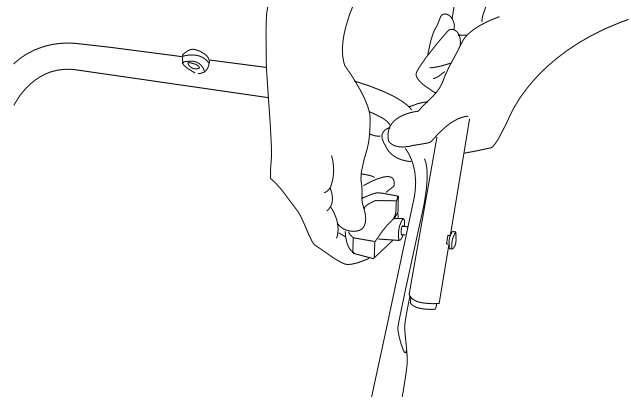

Figure 4
3. Secure the connection of middle frame and upper frame by fastening the knobs on each side (Fig. 4).